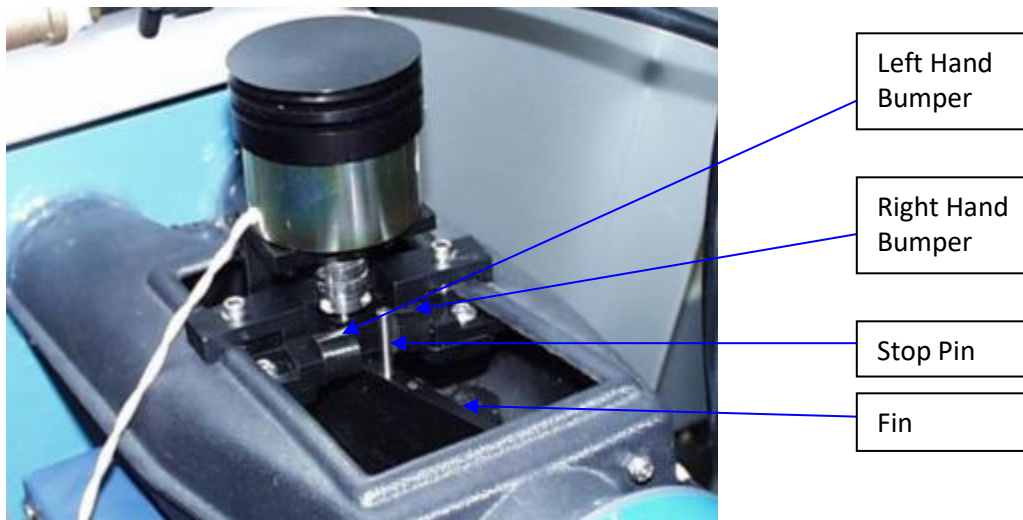

Figure 42: QCD Diverter
3. Move fin all the way to the right side, compressing (approximately 1/4") the bumper with the stop pin on fin (Figure 42). While keeping pressure on the bumper, tighten the lower screws of the coupler. This operation is done to apply a small amount of pre-load to the return spring on the actuator while in the "rest" state.